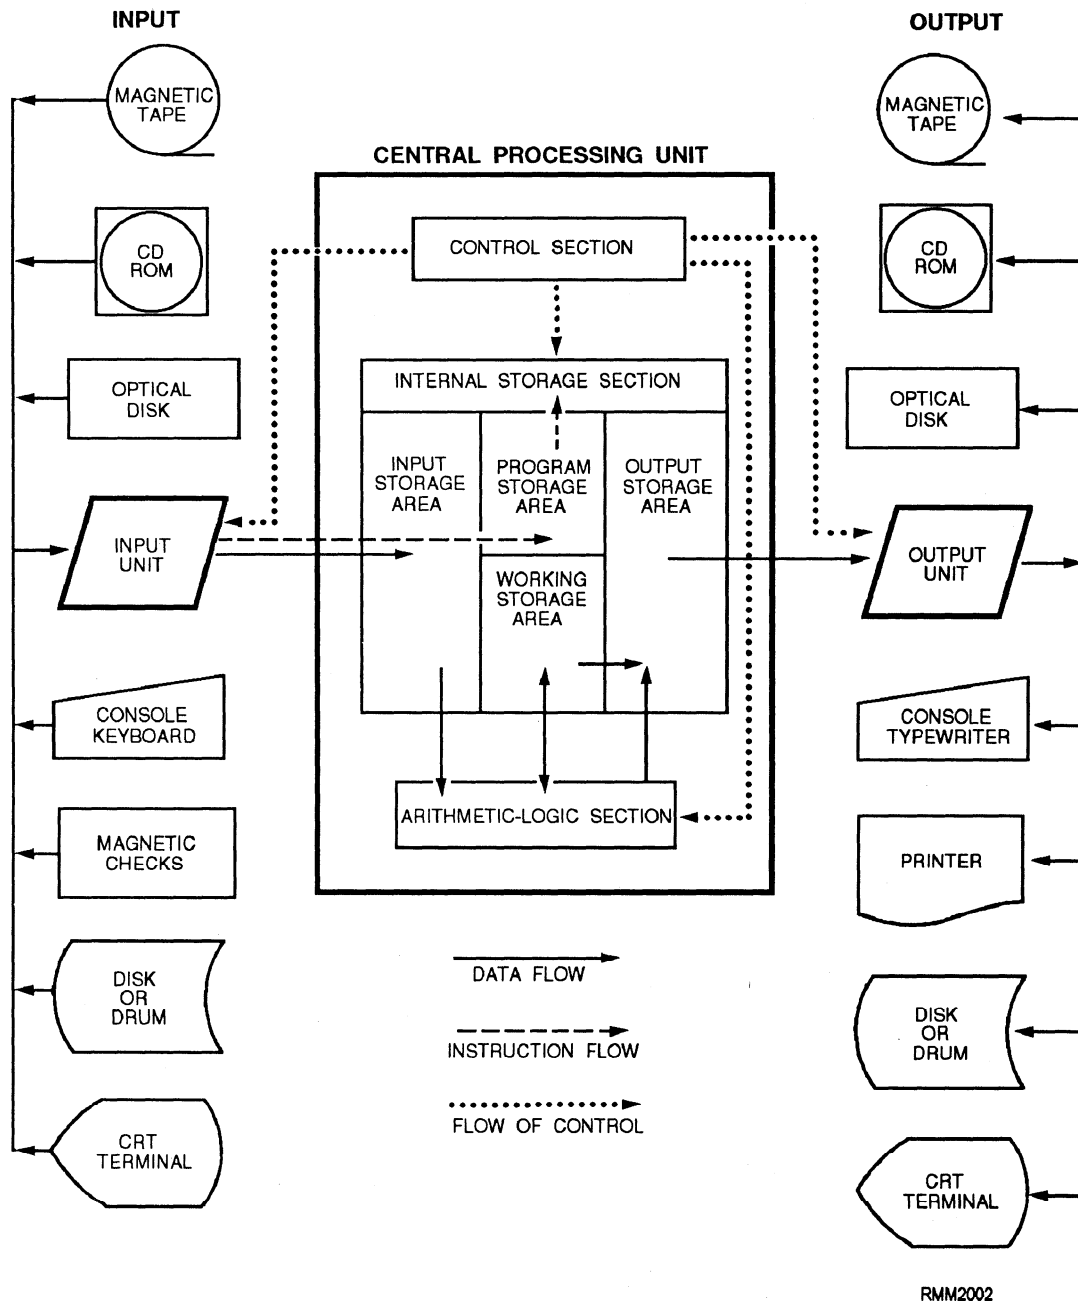

Figure 1-1.—Units/devices of a computer system.
programs. Figure 1-1 shows the CPU and the types of peripheral (input and output [I/O]) devices you will find in a computer system. The devices are interconnected by electrical cables thru a bus to allow communications between them. The CPU communicates with the peripheral devices through input/output (I/O) channels.
The control unit maintains order within the computer system and directs the flow of traffic (operations) and data. The flow of control is indicated by the dotted arrows on figure 1-1. The control unit selects one program statement at a time from the program storage area, interprets the statement, and sends the appropriate electronic impulses to the arithmetic-logic unit and storage section to cause them to carry out the instruction.
- To hold data transferred from an I/O device to the **input storage area**, where it remains until the computer is ready to process it. This is indicated by the solid arrow on figure 1-1.